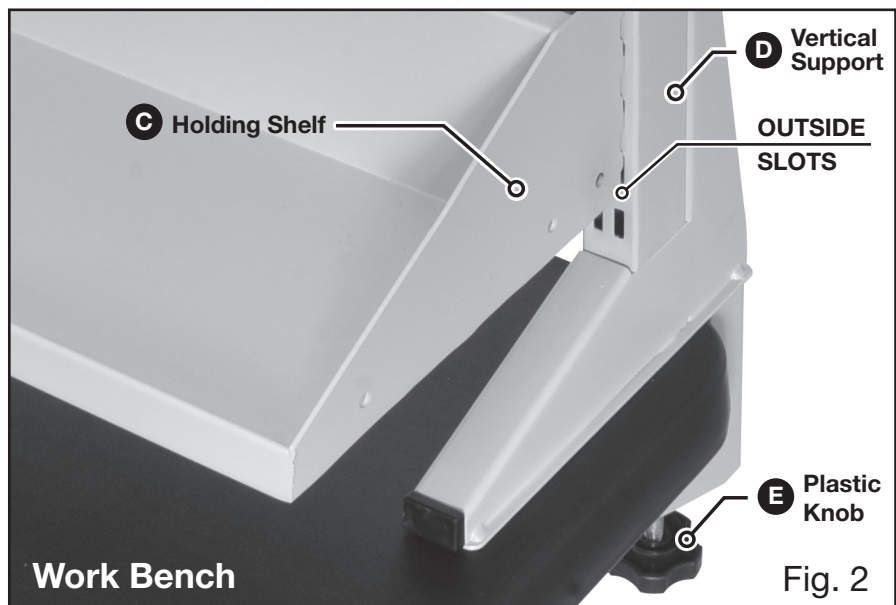

Fig. 2
Insert 2x **(C) Holding Shelf** into the outside mounting slots of 3x **(D) Vertical Supports**. If necessary, loosen and reposition the vertical supports to align with the shelf mounting points, as illustrated in **Fig. 2**.